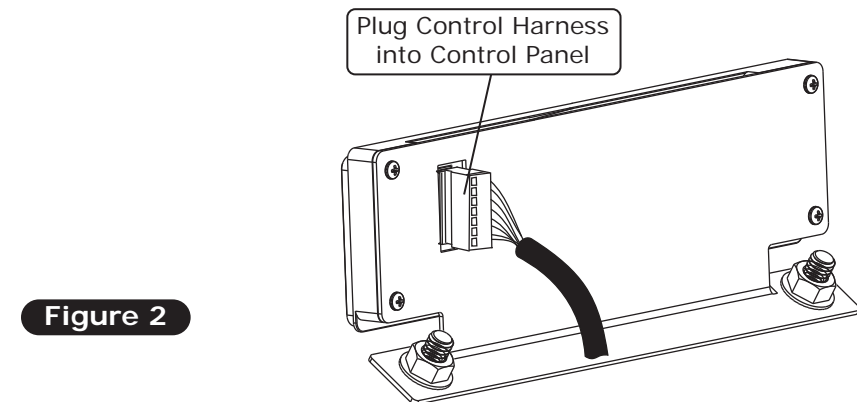

Figure 2
3. Plug the control harness into the back of the control panel as shown in Figure 2, below.